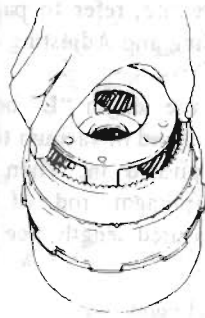

Fig. AT-72 Installing planetary carrier
7. Install rear clutch hub and front planetary carrier as shown in Figure AT-72.